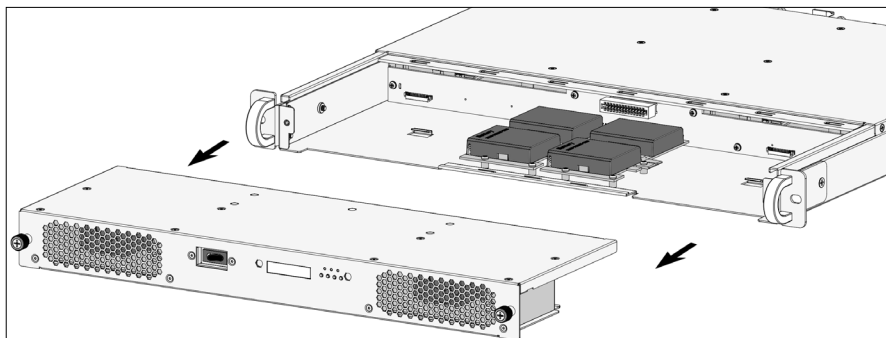

Figure B-6, Removing the front cover from the enclosure
2. Remove the mounting screw and separate the front cover from the enclosure, as shown in Figure B-6.